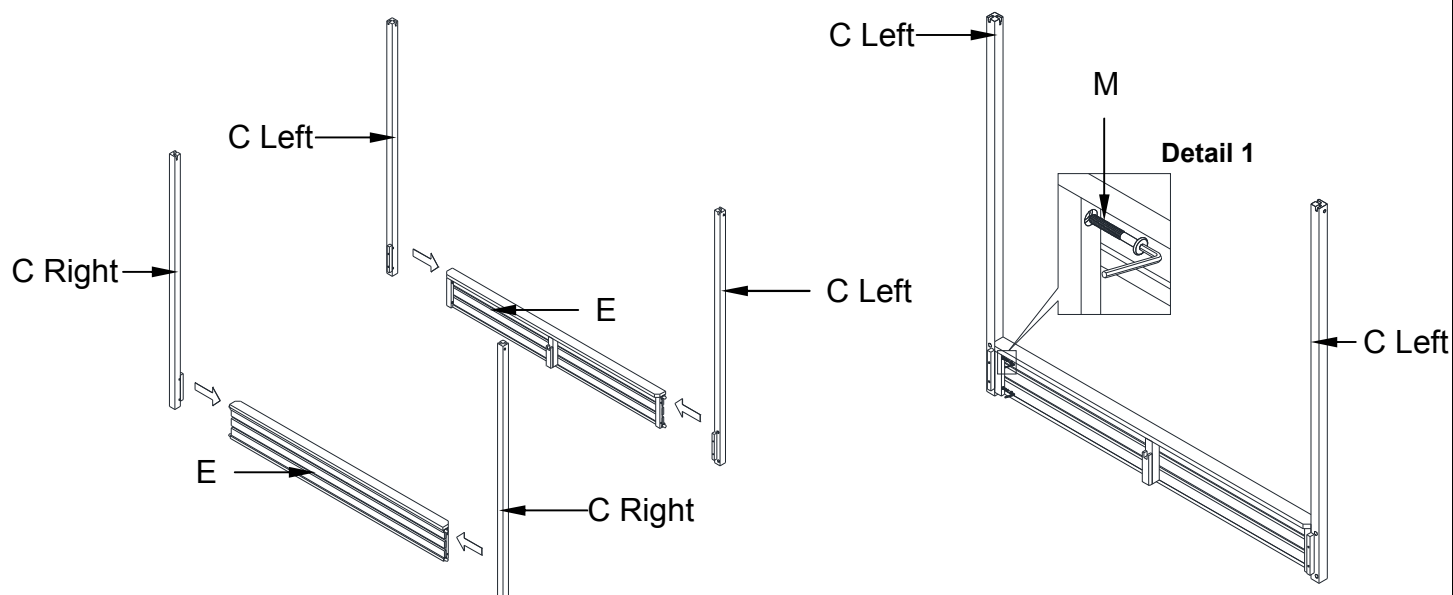

Fig. 1
1. Assemble 2 pcs of Post (C) to the Right Side Frame (E) and 2 pcs of Post (C) to the Left Side Frame (E). (See **Fig. 1**).
Insert 4 pcs Long Allen Bolts (M) on each side frames, and tighten with the supplied Allen Key. (See Fig.1), Detail 1.